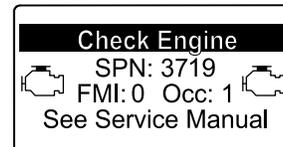

Figure 41
- If a recovery regeneration is needed, the InfoCenter displays engine warning SPN 3719, FMI 16 (Figure 41) and the engine computer derates engine power to 85%.